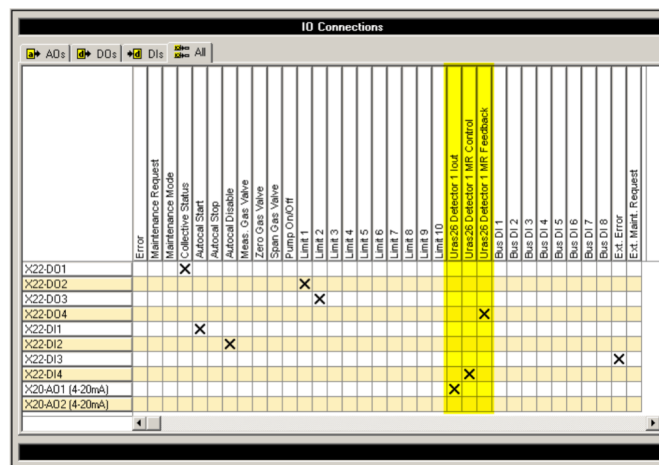

Figure 75: 'IO Connections' menu
The automatic measuring range switchover ‘Autorange’ can only be configured if an analog output is assigned to the detector. The externally controlled measuring range switchover ‘DI Control’ can only be configured if an analog output and a digital input are assigned to the detector, see Figure 75.
- The externally controlled measuring range switchover ('DI Control') can only be configured if an analog output and a digital input are assigned to the detector, see **Figure 75** on page 145.